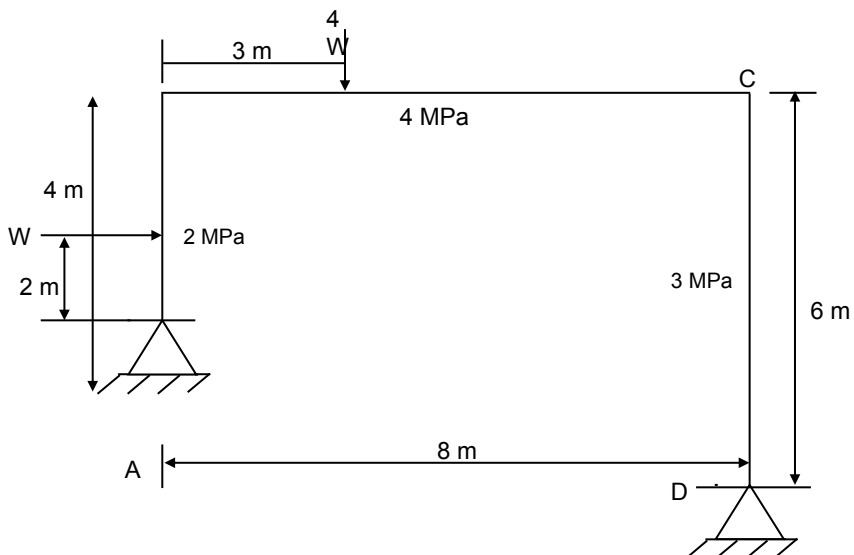

Figure 9
Q.9 (a) Determine the ultimate load W for the frame shown in the Figure 9. The ultimate moment capacities for AB , BC and CD are 2 MPa, 4 MPa and 3 MPa, respectively.